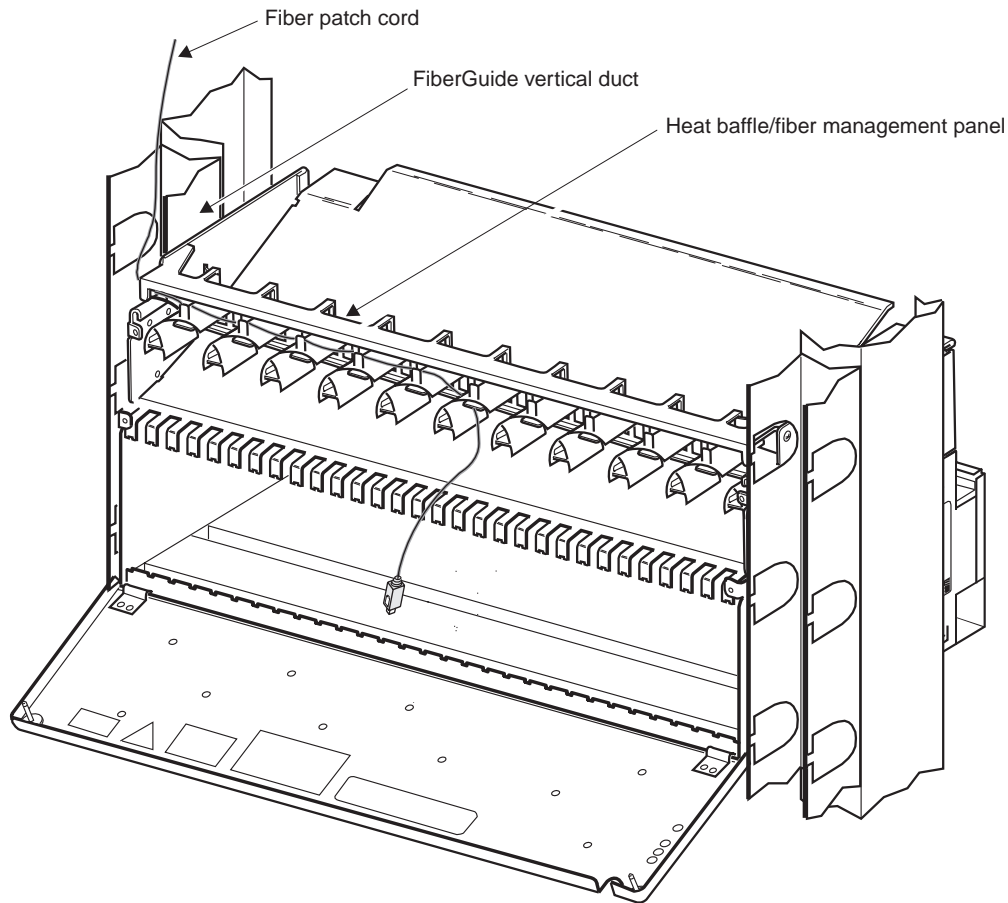

Figure 5. Routing the Fiber Patch Cord
- 2 Route the fiber patch cord through the top of the chassis, along the heat baffle/fiber management panel. Lower the cord through the FiberGuide vertical duct to the location reserved for the D3LX CO module as shown in Figure 5 on page 10. The protective cover must remain on the fiber connector to prevent dust and damage to the connection. The fiber should be tagged to identify the circuit.